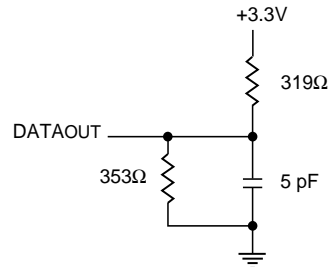

Figure 2. Output Load Equivalent
5. The parameter is tested with $CL = 5 \text{ pF}$ as shown in Figure 2. Transition is measured $\pm 200 \text{ mV}$ from steady state voltage.